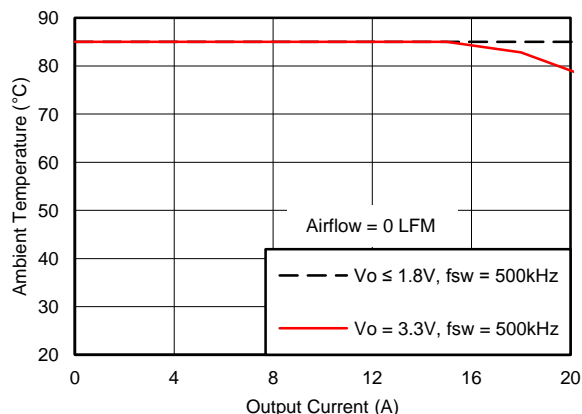
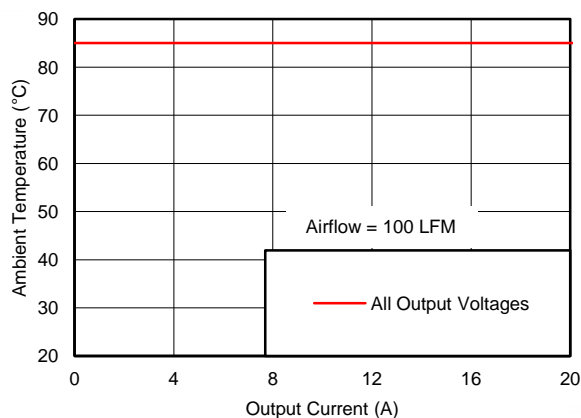

Figure 4. Safe Operating Area (0 LFM)
Figure 5. Safe Operating Area (100 LFM)
- (2) The temperature derating curves represent the conditions at which internal components are at or below the manufacturer's maximum operating temperatures. Derating limits apply to devices soldered directly to a 100 mm x 100 mm six-layer PCB with 1 oz. copper. Applies to Figure 4 and Figure 5.